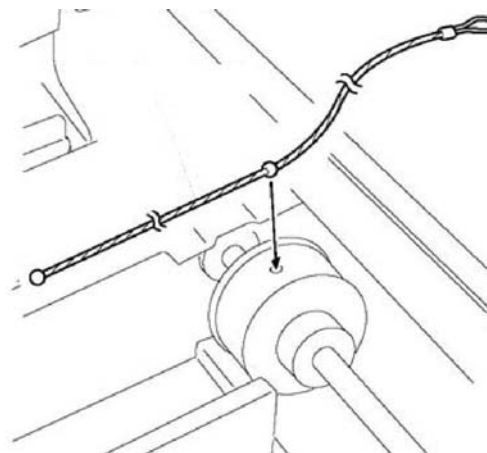

Figure 6 Anchor ball
1. Insert the anchor ball of the carriage cable into the groove in the capstan, **Figure 6**.